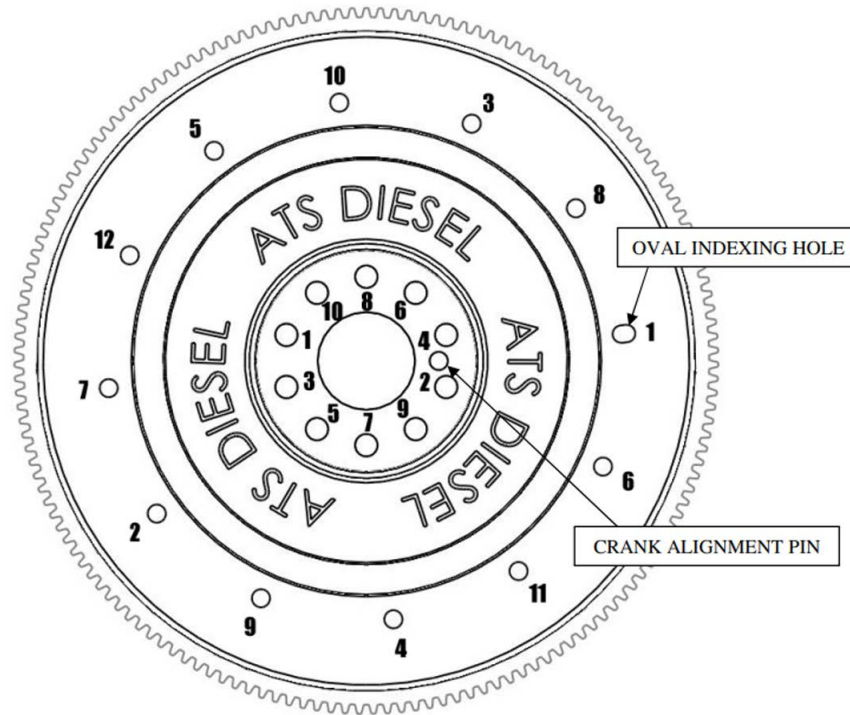

Figure 1: Oval Index Hole and Torque Sequence
3. Torque (10) crankshaft bolts to 86 ft-lbs in the numbered sequence as shown on the following page. (See Fig 1).
4. With the transmission reinstalled, thread the first torque converter bolt/nut through the oval shaped hole (See Fig. 1). This hole will line up the rest of the torque converter bolts and will make installation easier.
5. If using a factory torque converter with 4 threaded studs, you only need 4 of the 12 holes (as with a 89-93). (See Fig. 1, use torque sequence 1-7-4-10). **Torque the nuts to 26 ft-lbs.**
6. If using a factory torque converter with 6 threaded studs, only 6 of the 12 holes are needed (as with 94-03). (See Fig. 1, use torque sequence 1-7-3-9-5-11). **Torque the nuts to 26 ft-lbs.**
8. If using an ATS 5-Star Torque Converter, torque the bolts to 35 ft-lbs using the bolt sequence (1 thru 12) shown in Fig. 1.